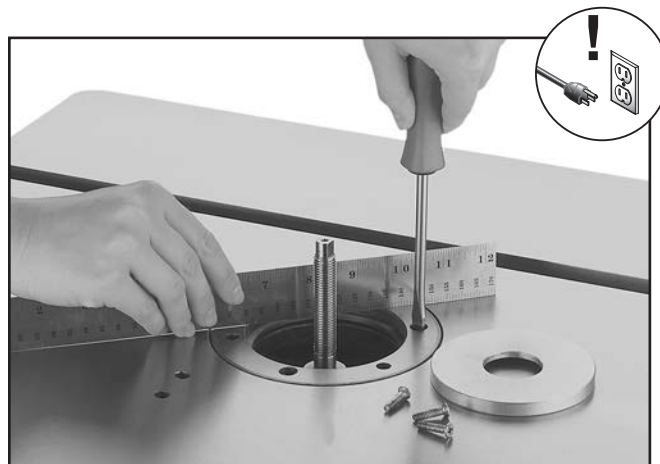

Figure 73. Leveling the insert ring.
3. Lay a precision straightedge across the insert ring and the table, then adjust the barrel screws until the insert ring is level with the table top in all directions (see **Figure 73**).